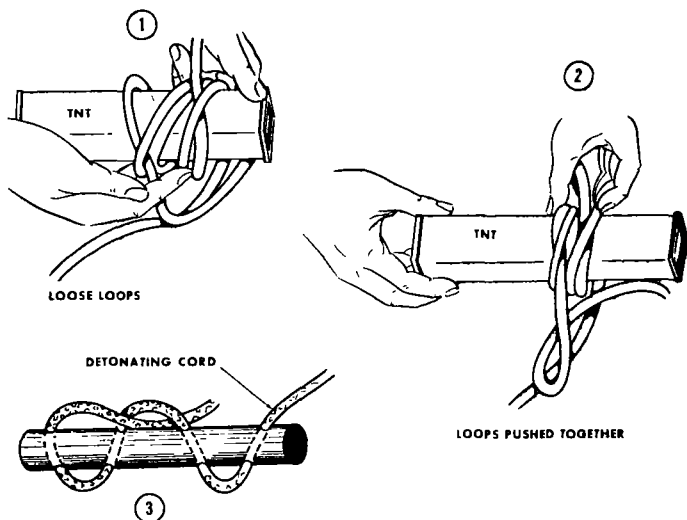

Figure 109. Priming TNT block with detonating cord.
(2) *Using detonating cord.* Since detonating cord must be detonated itself with a blasting cap, it cannot properly be considered a primer. Detonating cord may be used, however, to detonate any number of high explosive charges, provided a single electric or nonelectric blasting cap is properly and securely attached to the cord. To prime TNT with detonating cord, the detonating cord is tied securely around the explosive charge by a clove hitch with an extra turn as shown in 1, figure 109. At least four complete turns are required to insure proper detonation. The cord must fit snugly against the block and the loops must be pushed together.